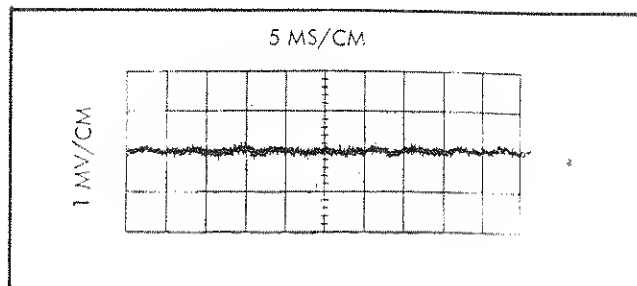

Figure 4-4. RIPPLE ON 125 VOLT SUPPLY
- b. Connect an oscilloscope between the top of R8 on the Amplifier P/C Assembly and chassis ground. Adjust the Variac output between 103 and 127 volts. The ripple should be less 0.8 millivolts peak-to-peak (see Figure 4-4).